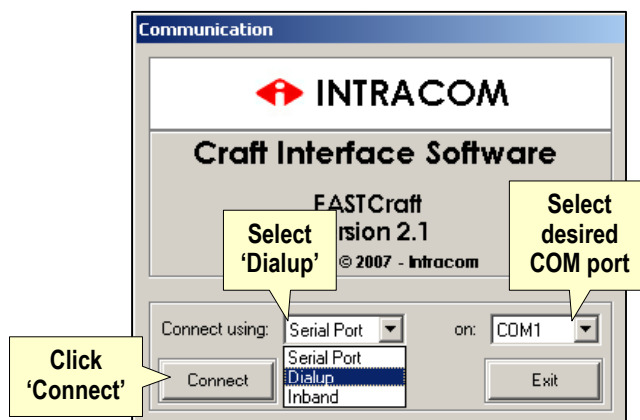

Figure 8 – Dial-up access (local)
- 2 Select **Dialup** and the port (**COM1** through **COM4**) to which the modem is connected on your computer (Figure 8).